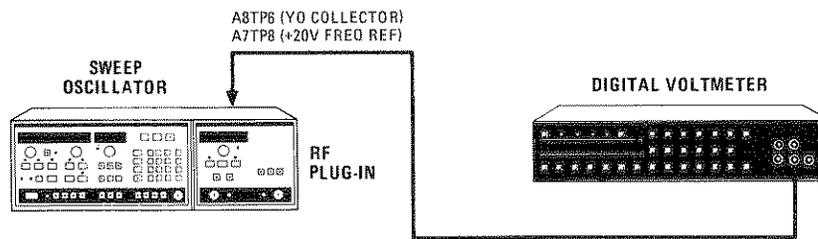
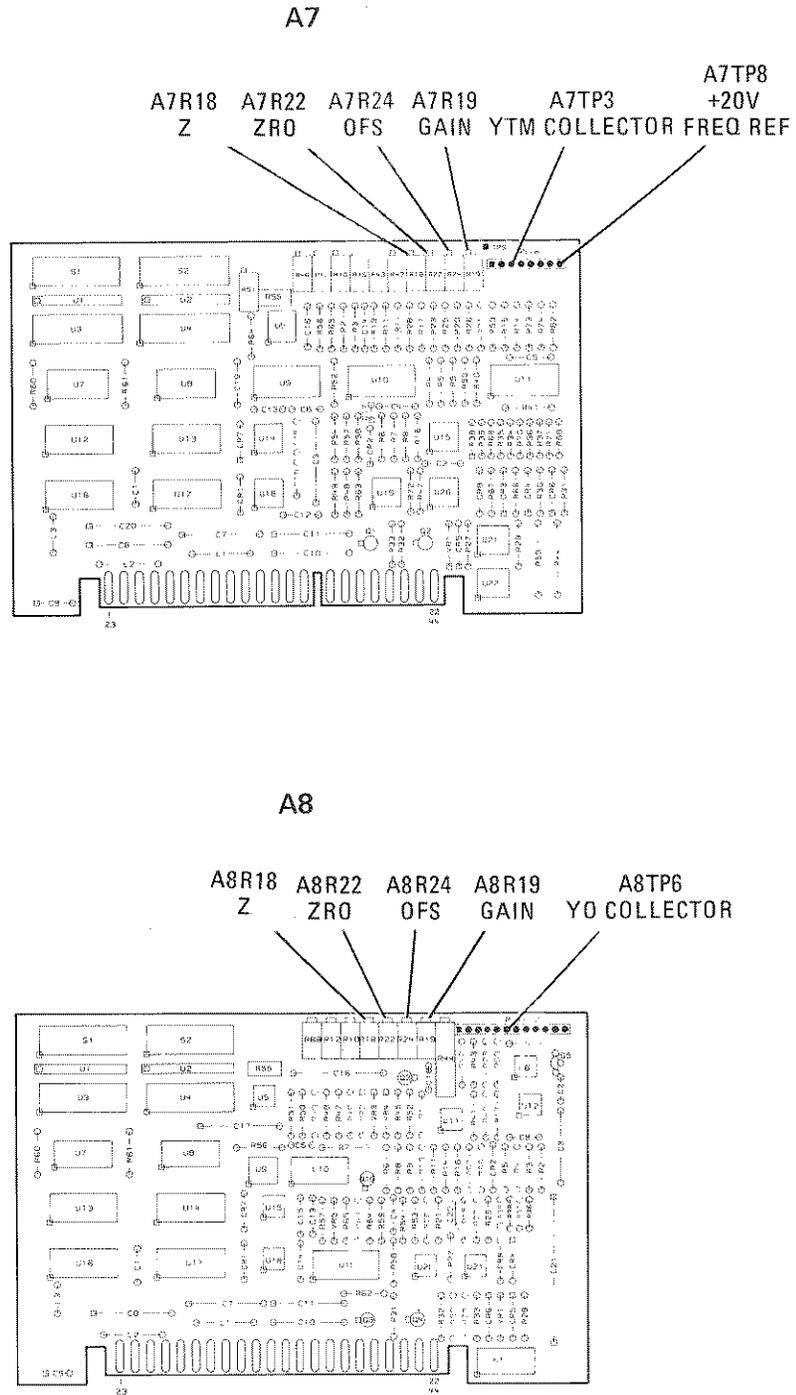

Figure 5-6. YO and YTM DAC Calibration Adjustment Locations
Figure 5-7. YO and YTM DAC Calibration Adjustment Locations
1. Connect the equipment as shown in Figure 5-6. First connect the DVM to A6TP9 (VTUNE) and the reference probe to A6TP10 (VTUNE RET). Refer to Figure 5-7 for test point and adjustment locations. Allow the RF Plug-In to warm up for one hour.